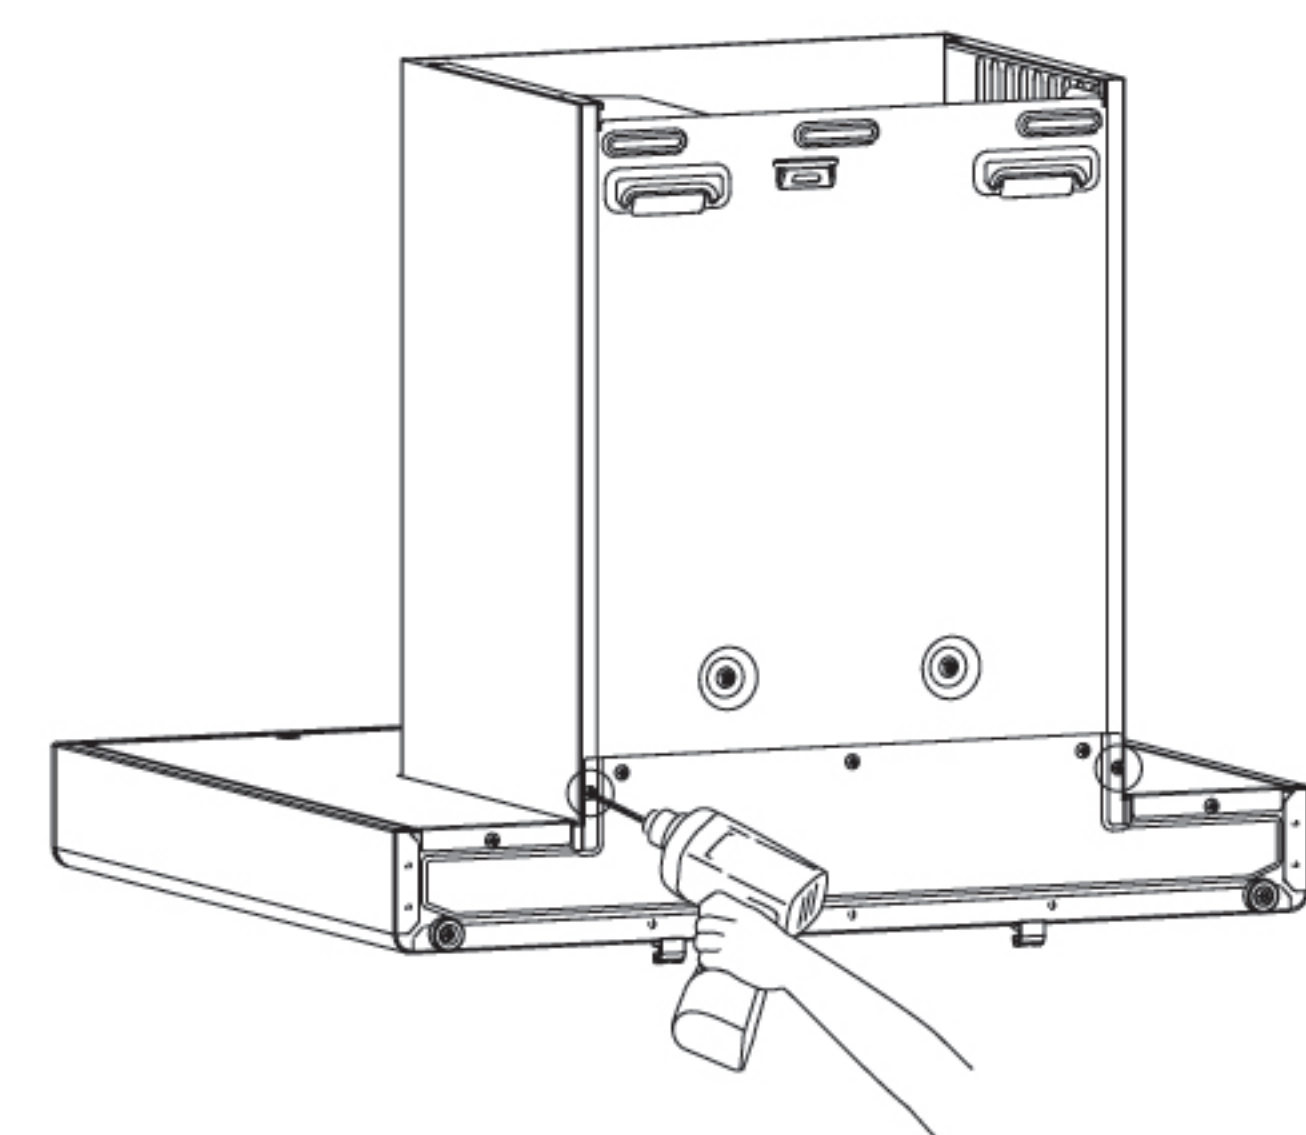

Fig.6
2. Remove the fan cover and decorative hood (only for EMG9008-C): remove the 2 screws that fix the fan cover behind the main body with a screwdriver(see Fig.6), and then grab the fan cover and decorative hood with both hands to take them out upward(see Fig.7);